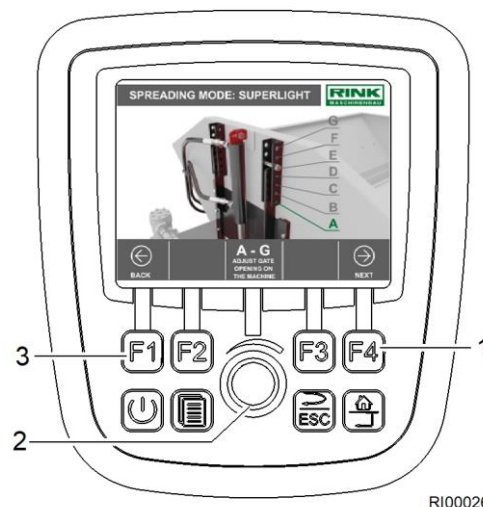

Fig. 37 Set spreader gate opening
1. Turn the rotary control (Fig. 37/2) and set the desired spreader gate opening for spreading operation.
3. Press the F4 button (Fig. 37/1). The control menu for spreading operation is called up.
4. Press the F1 button (Fig. 37/3). The previous control menu is called up.